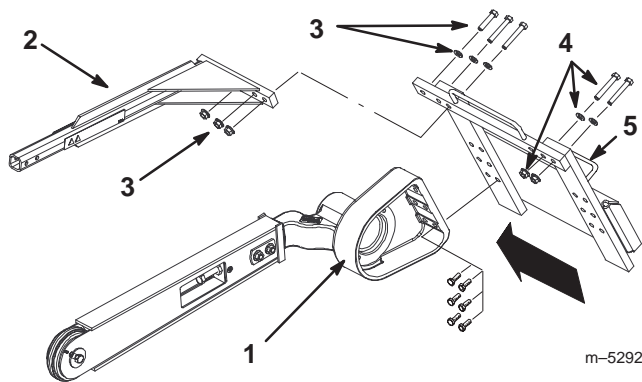

Figure 5
2. Remove the 6 bolts securing the trencher head to the frame (Fig. 5).
4. Attach the head to the frame with the 6 bolts removed previously (Fig. 5).
6. Remove the 3 bolts, washers, and flange nuts from the safety bar and remove the bar (Fig. 5).
7. Remove the 2 short bolts, washers, and flange nuts securing the right side of the upper frame and move them to the corresponding holes on the left (Fig. 5).
8. Install the safety bar over the trencher chain using the 3 bolts, washers, and flange nuts removed previously (Fig. 5).
10. Move the hoses from the hose guide on top of the trencher to the hose guide on the left side (Fig. 5).